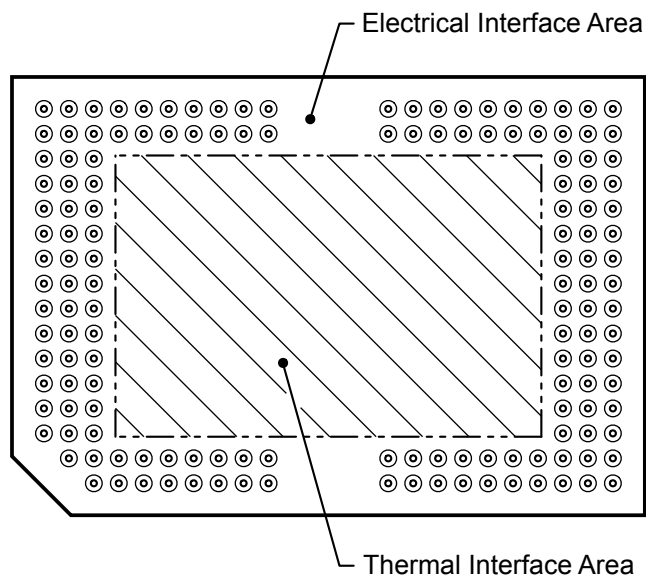

Figure 5-14. System Mounting Interface Loads
(1) The load should be applied uniformly in the corresponding areas shown in Figure 5-14.